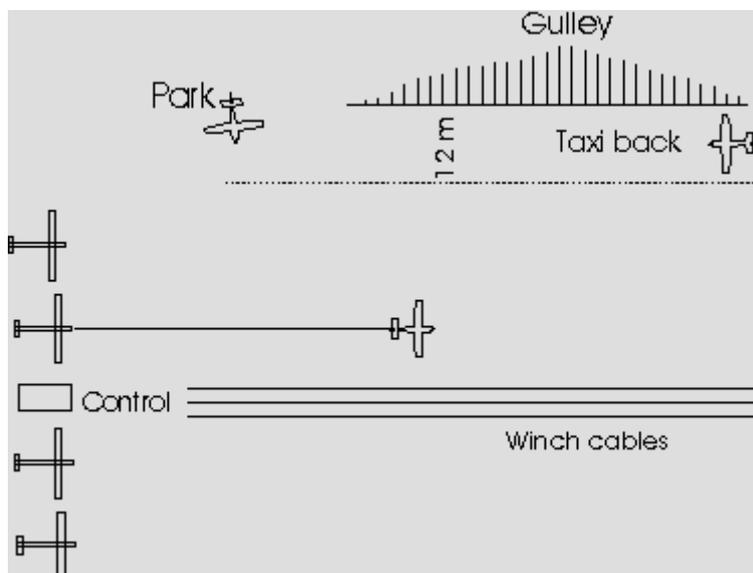

Figure 1
8.2 South West Run (Figures 1 and 2)
Launch Position. Gliders will normally be positioned as shown in Figure 1. If the tower is positioned correctly there will be room for two K21s side by side.
Take-off. The take-off path must be kept within the area shown in Figure 1, between the 12m wide sterile area towards the gully and the central line.